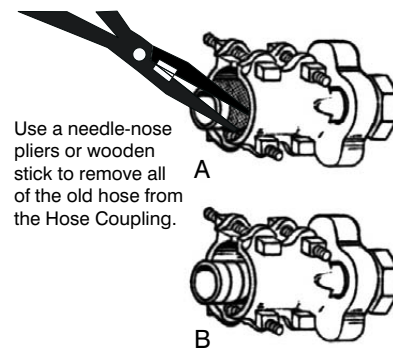

Figure 8-11. Remove hose completely from the coupling plug and clamp.
- Use a needle-nose pliers or wooden stick to remove hose pieces that are stuck to the coupling plug. Refer to Figure 8-11. Do not scratch the coupling plug.